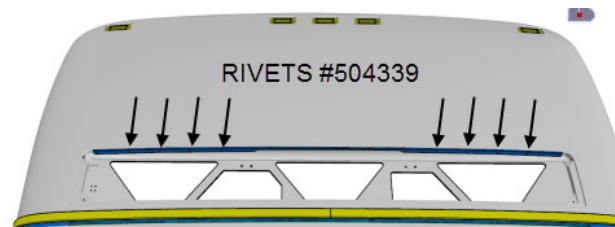

FIGURE 52
11. Fasten the drip edge using eight (8) rivets #504339 as shown on FIGURE 52.